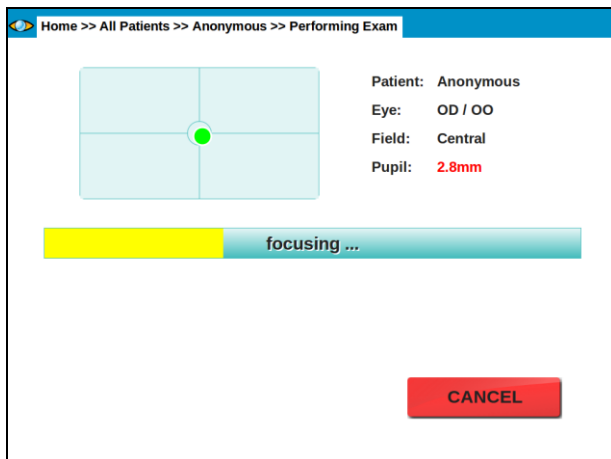

Figure 9 - Auto-focus in progress
- Perform auto-focus (see Figure 9);